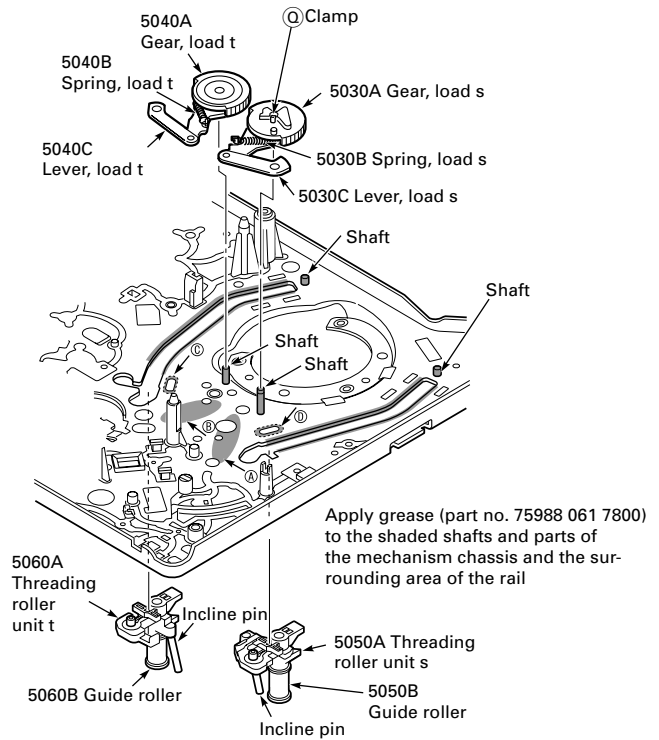
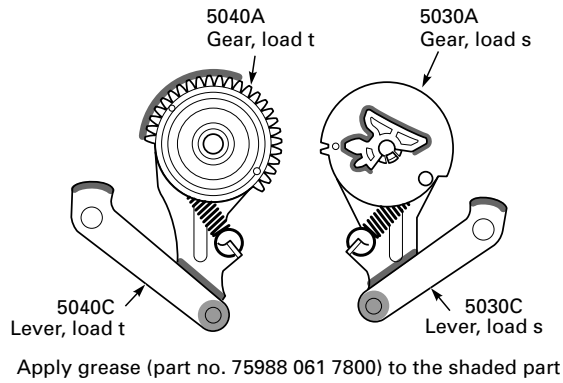

Fig. 8.25
Fig. 8.28
- Disengage the clamp ① and remove the load gear of the threading roller unit (Pos. 5030A) and the detached load spring (Pos. 5030B, Fig. 8.25). When disassembling these components, take care that the load spring (Pos. 5030B) does not jump off.
- Remove the load gear of the threading roller unit (Pos. 5040A) and the detached load spring (Pos. 5040B, Fig. 8.25). When disassembling these components take care that the load spring (Pos. 5040B) does not jump off.
- Always use the grease with part number **75988 061 7800** for lubrication and follow the lubrication instructions given in Fig. 8.25 and Fig. 8.28!